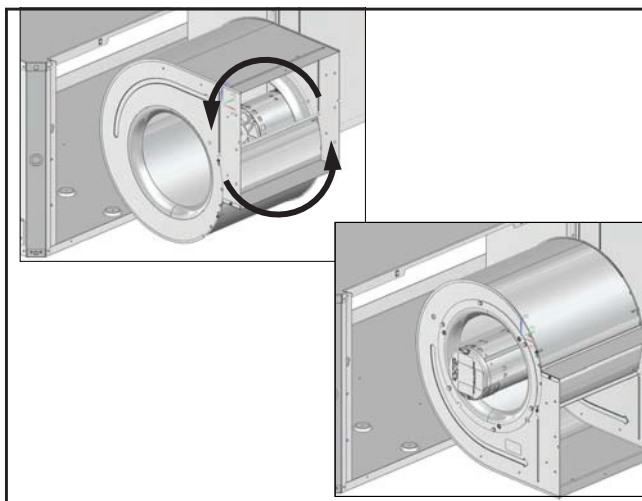

Fig. 51 - Reorient Blower Assembly
11. Reorient the blower assembly 180 degrees with blower “belly” up. See Fig. 51.